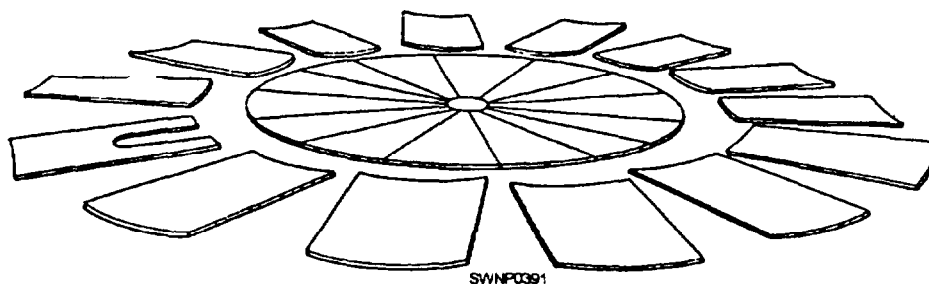

Figure 9-6.—Layout of the staves around the tank bottom, 500-barrel capacity tank.
The 500-barrel tank (fig. 9-5) has a capacity of 21,000 gallons of liquid and is similar to the 250-barrel tank, except that the bottom consists of 14 wedge-shaped plates around a one-piece center section, as shown in figure 9-6. This vertical, bolted
**SPECIAL SECTIONS.**— The tank bottom has one special section, fitted with a blind opening. Five of the 14 staves are special sections. One section is for a cleanout cover, and the other four sections are used for pipe connections (fig. 9-6). The tank deck has three special sections. Two sections are used for a thief hatch and relief valve, and one section is used for a liquid indicator.